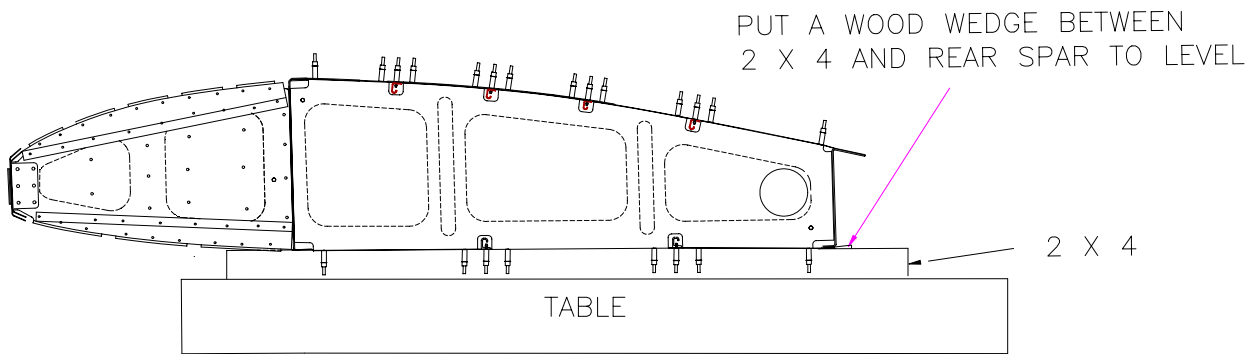

Figure 8.17.5
- 9) Position the Top Skin with Stringers and Top Tank Skin (W-158), cleco in place. Use six 3/32" clecos in each rib. Figure 8.17.5.